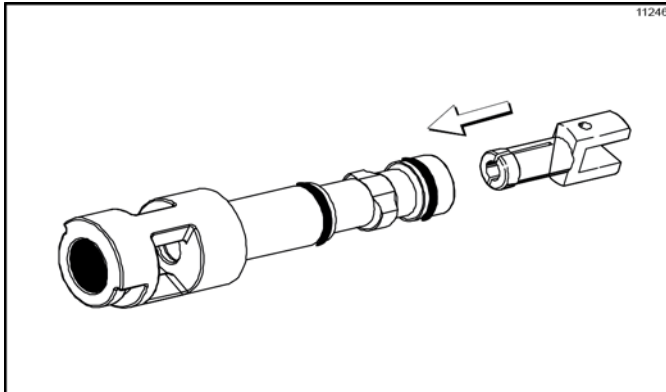

Figure 6-10
10. Squeezing the split end, insert the driven spinner through the metal opening of the draw valve until it snaps into place. (See Figure 6-10.)